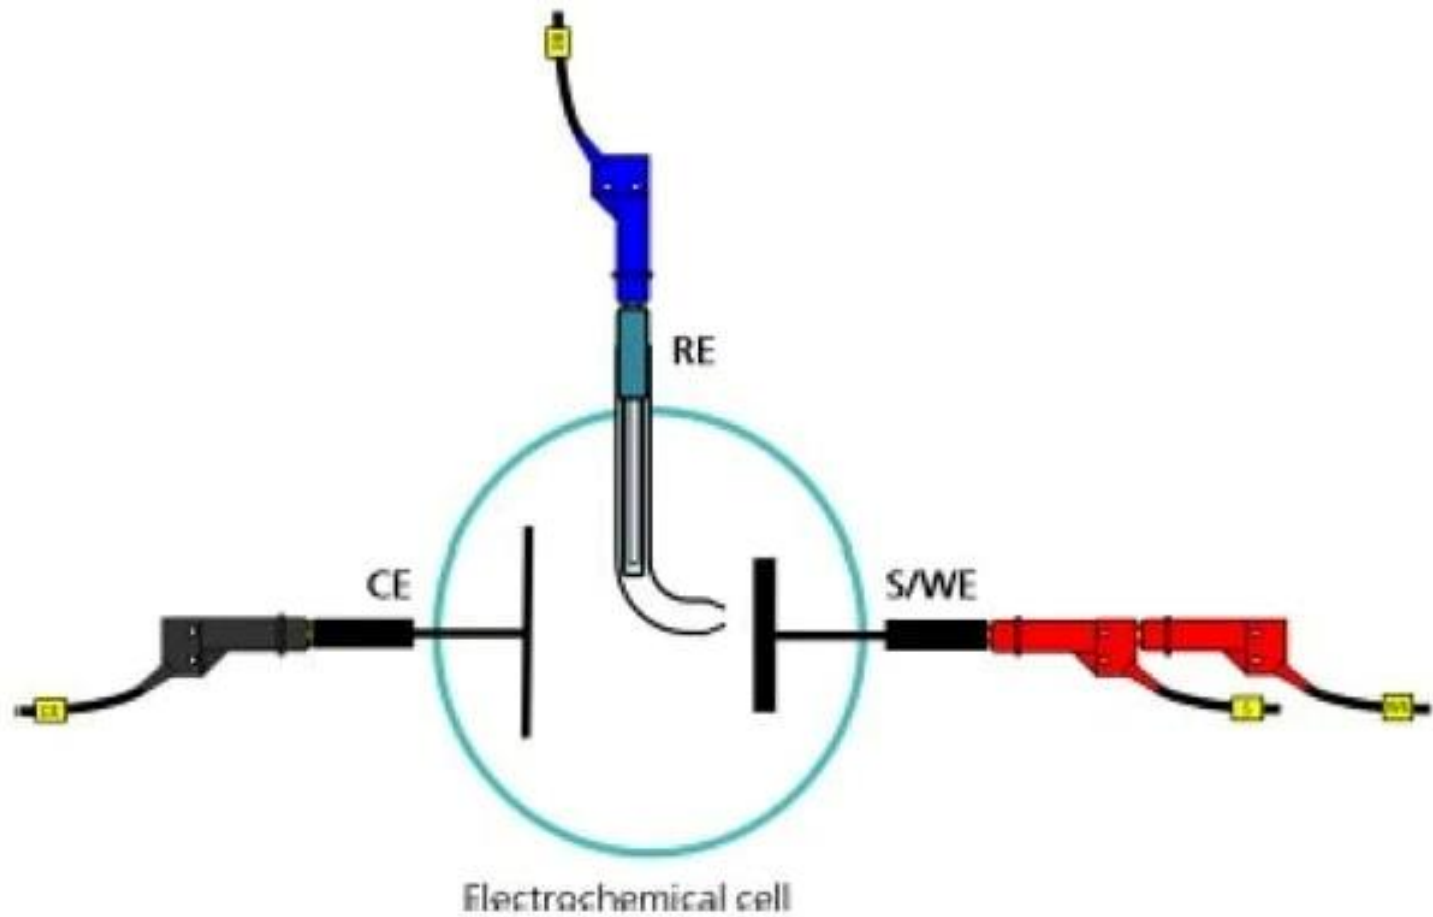

Figure 5 – Schematic view of the 3 electrode setup
- The three-electrode cell setup is the most common electrochemical cell setup used in electrochemistry (see Figure 5). In this case, the current flows between the CE and the WE. The potential difference is controlled between the WE and the CE and measured between the RE (kept at close proximity of the WE) and S.